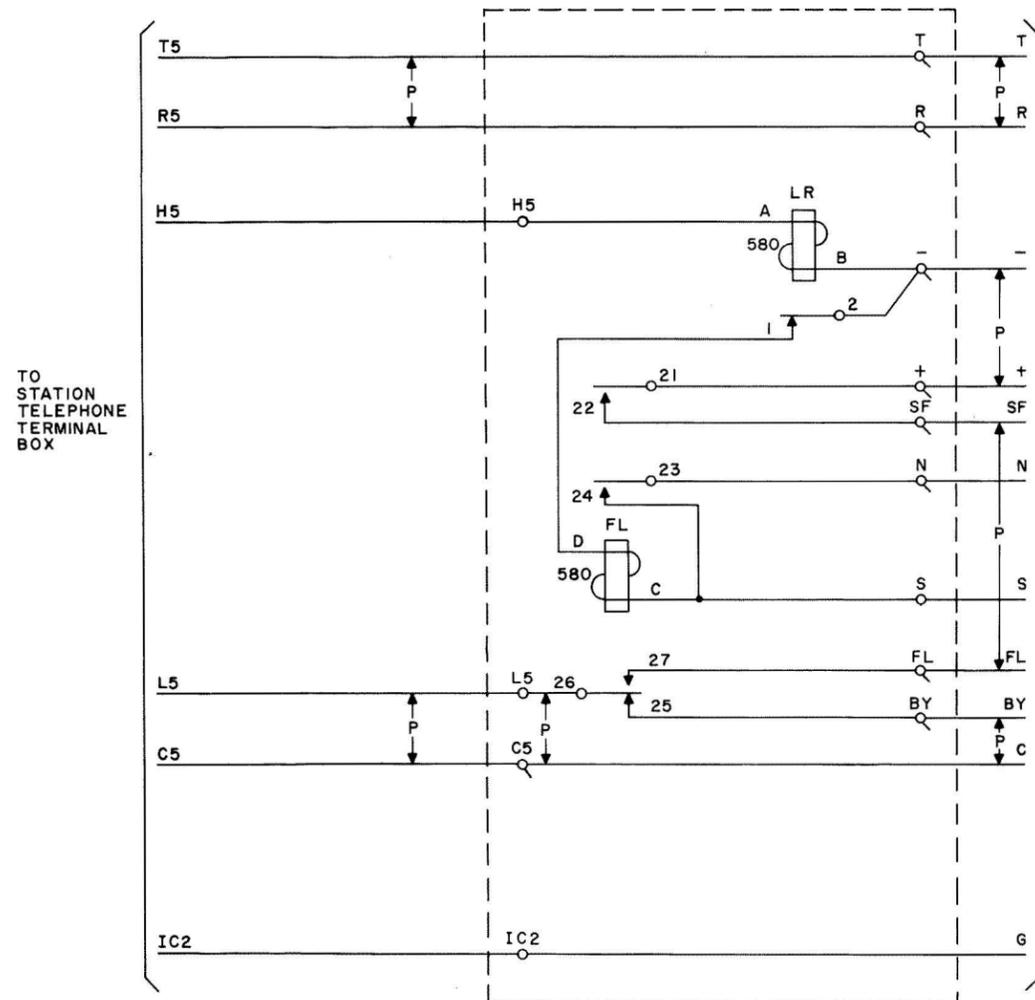

FIG. 3
- 102. CABLE PER FIG. 3 WHEN LAMP FLASHING CIRCUIT IS NOT REQUIRED.
102. CABLE PER FIG. 3 WHEN FLASHING LINE SIGNALS ARE NOT REQUIRED.